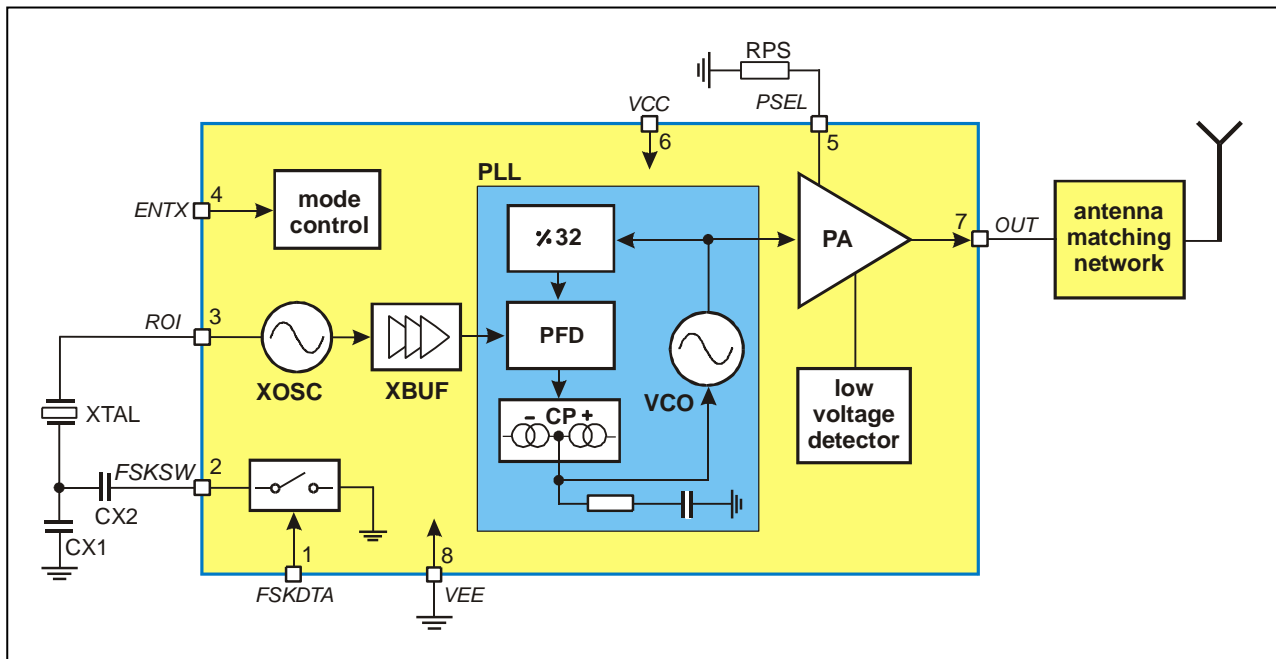

Fig. 1: Block diagram with external components
As depicted in Fig.1, the TH72011 transmitter consists of a fully integrated voltage-controlled oscillator (VCO), a divide-by-32 divider (div32), a phase-frequency detector (PFD) and a charge pump (CP). An internal loop filter determines the dynamic behavior of the PLL and suppresses reference spurious signals. A Colpitts crystal oscillator (XOSC) is used as the reference oscillator of a phase-locked loop (PLL) synthesizer. The VCO's output signal feeds the power amplifier (PA). The RF signal power  $P_{out}$  can be adjusted in four steps from  $P_{out} = -12$  dBm to +10 dBm, either by changing the value of resistor RPS or by varying the voltage  $V_{PS}$  at pin PSEL. The open-collector output (OUT) can be used either to directly drive a loop antenna or to be matched to a 50Ohm load. Bandgap biasing ensures stable operation of the IC at a power supply range of 1.95 V to 5.5 V